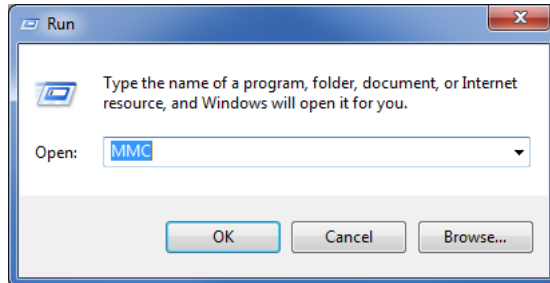

Fig. 2-1: Run MMC
1. Click on the **Start** button then click on **Run** and enter *MMC* into the text box (Figure 2-1).